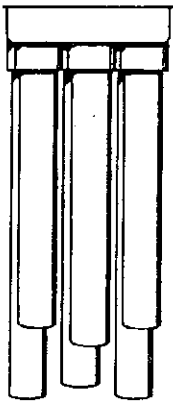

Figure 12-1
4. Glue the longest three pieces into adjacent ports of the Water Valve and the three shorter lengths into the three remaining adjacent ports. Use a medium body PVC to PVC pipe cement. Apply the cement to the ports in the valve base while the valve is in the upright position (ports down) and allow the assembly to cure in the upright position to prevent the glue from running into the internal area of the valve. (See Figure 12-1)
7. Plumb a threaded 1-1/2" nipple into the top of the QuikStop (DO NOT OVERTIGHTEN) and with a 90° ell and a union, connect the valve to the header (See Figure 12-1). Paint all of the exposed PVC pipe and the water valve to protect from UV rays.